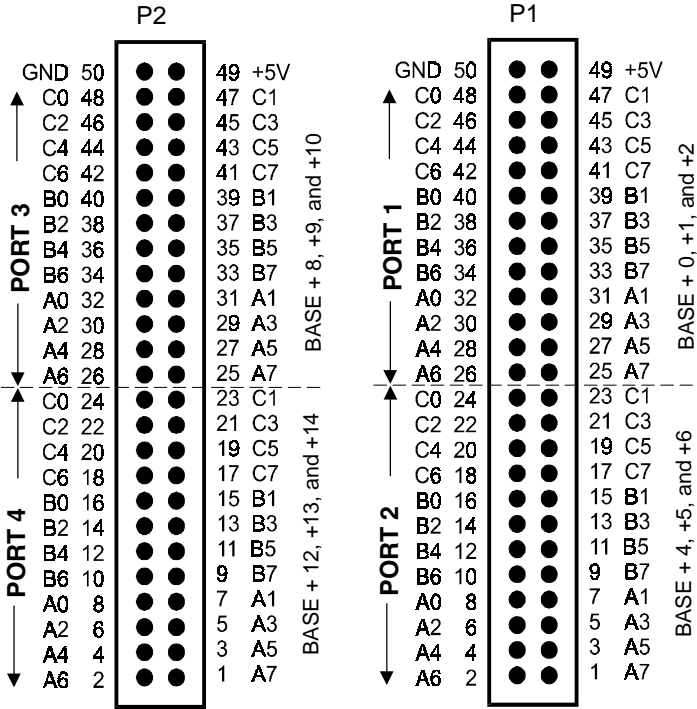

Figure 4-3. CIO-DI96 Pin-outs & Register Assignments
- The CIO-DI96 has two connectors (Figure 4-3).